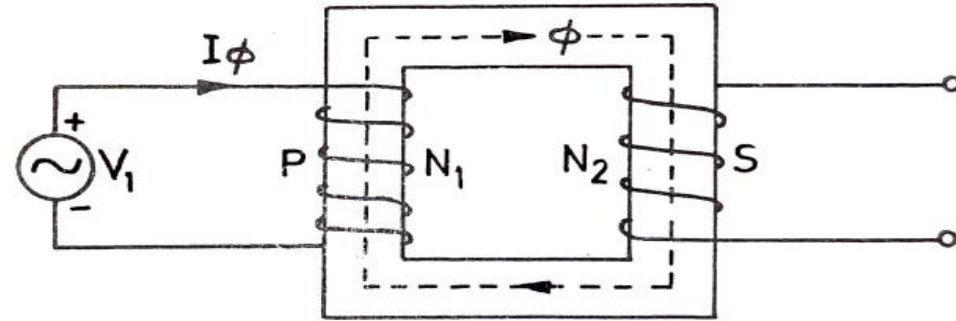

Fig. 8.7
- ✓ The alternating mmf $N_1 I_\phi$ sets up alternating flux ϕ which is confined to the high permeability iron path as indicated in **Fig. 8.7**.